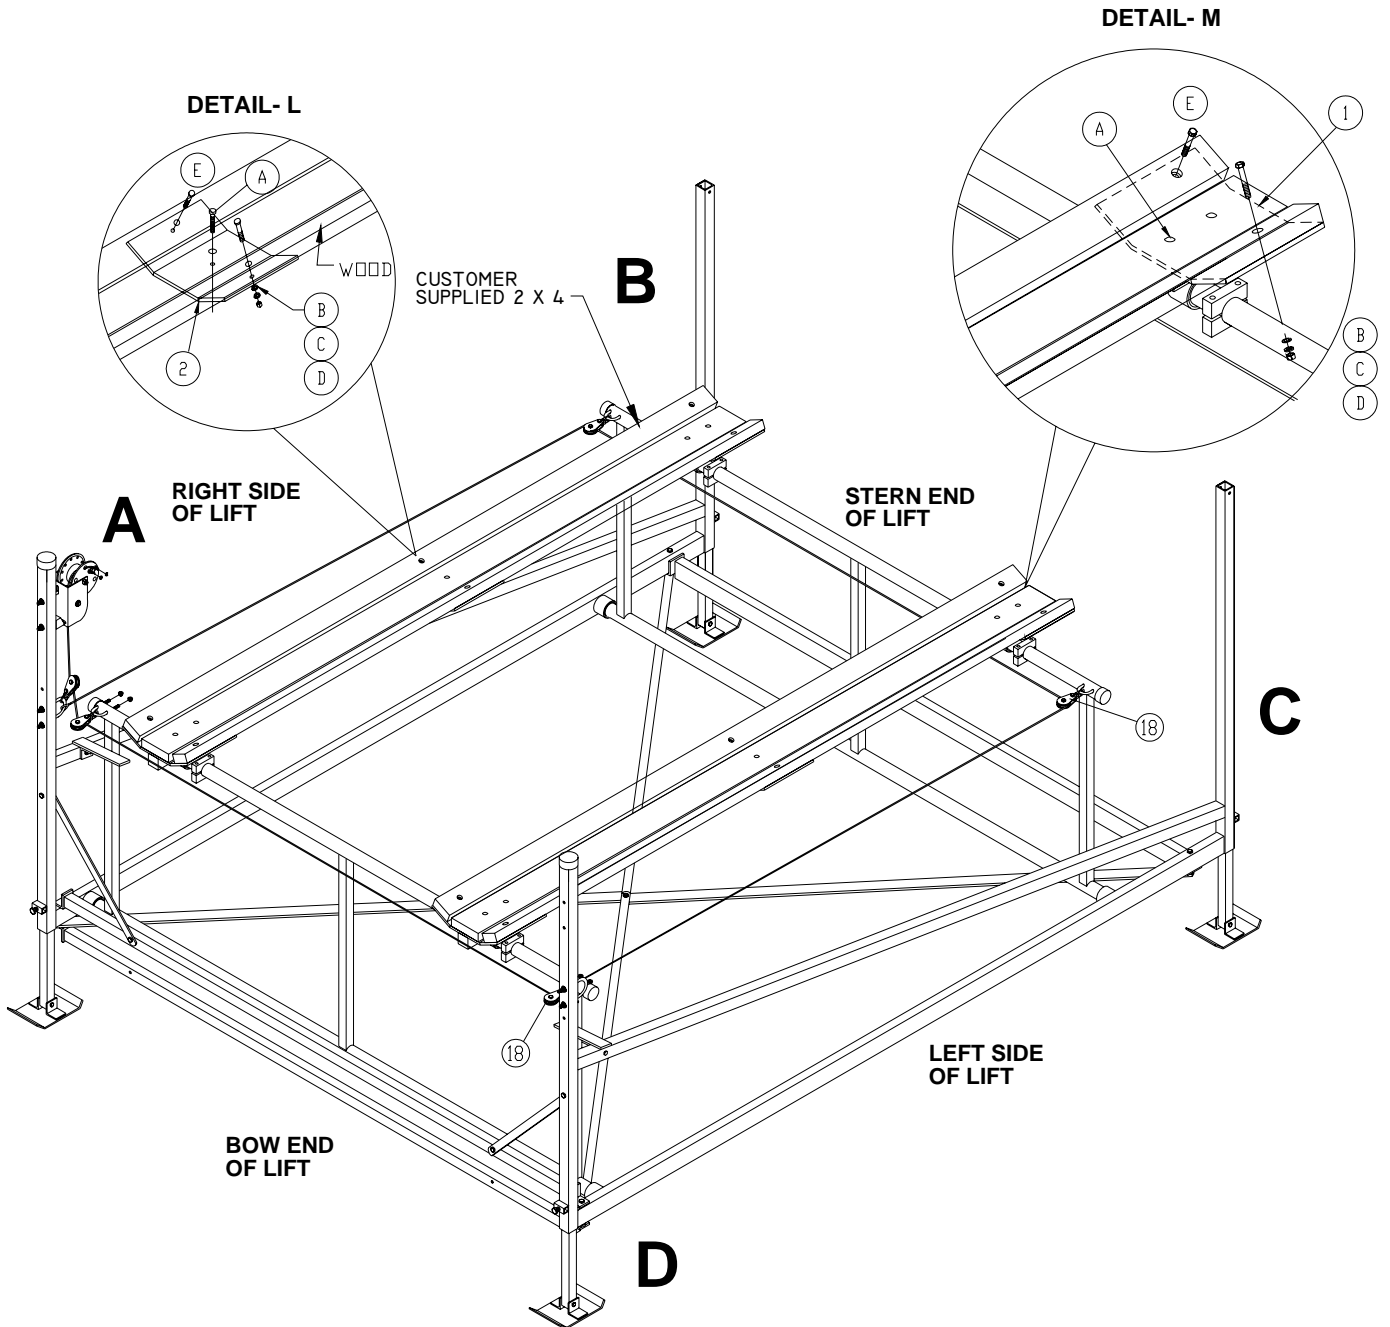

Figure 2-3.
1. Refer to Figure 2-3, Detail L & M. Place the four 2" x 4" pressure treated wood pieces (one each side of each 2" x 6") on the pontoon bunk mounting plates along with scrap barrier material (to ensure proper wood positioning). Transfer all hole locations to the 2" x 4" s. Ensure that the ends of the wood are even with one another, cut 2" x 4" if needed.
4. Attach the 2" x 4" wood onto the pontoon mounting plates using: carriage bolt (E), flat washer (B), split-lock washer (C), and hex nut (D).